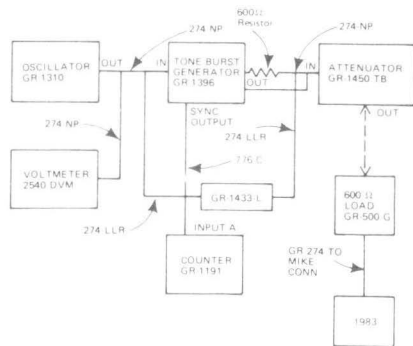

Figure 5-2. Test set-up for meter ballistics check.
- a. Arrange the test setup shown in Figure 5-2.